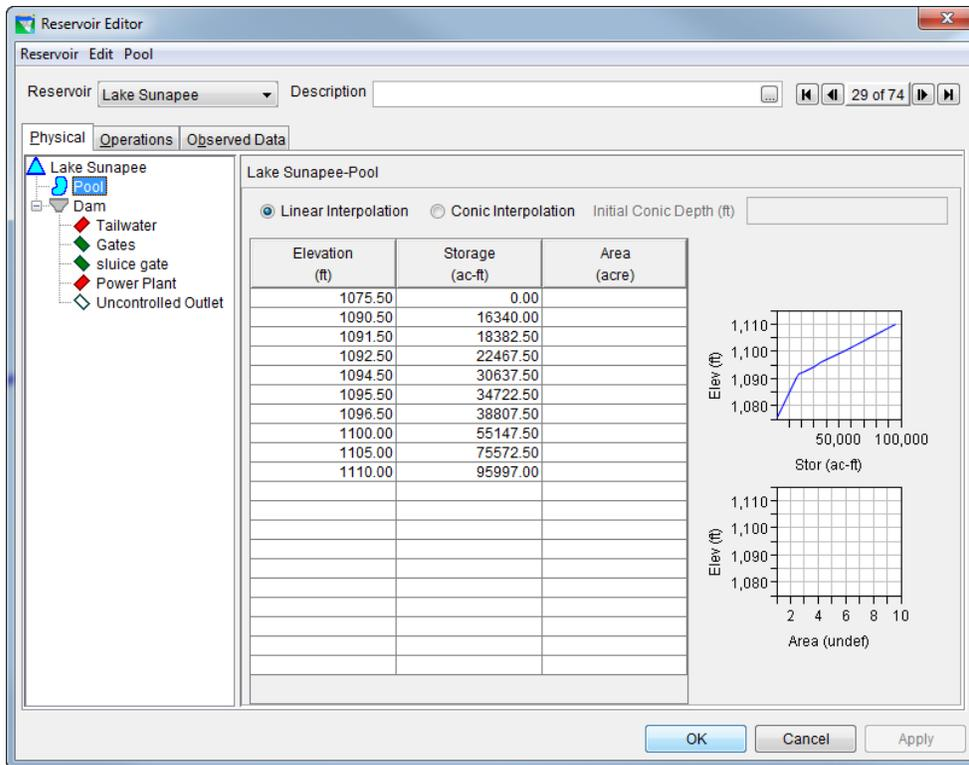
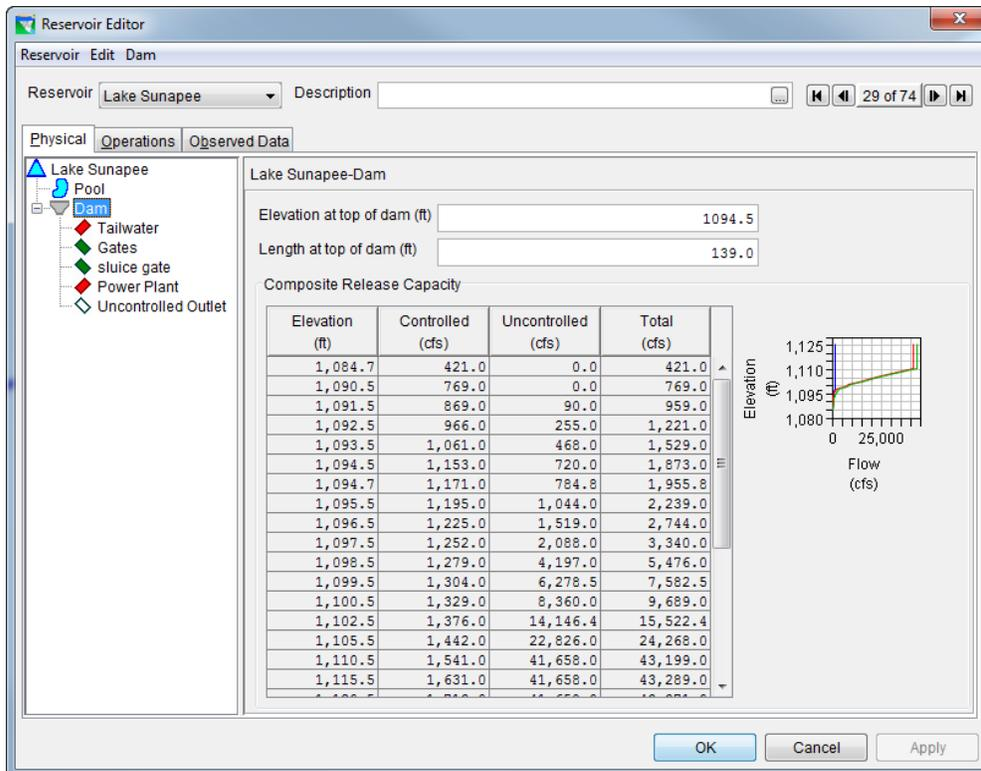

Figure 3: Reservoir Editor: Physical Tab -- Pool
Figure 4: Reservoir Editor: Physical Tab -- Dam
The physical characteristics of the reservoir are separated between the Pool and the Dam in the HEC-ResSim model. The elevation-storage-area defines the pool as shown in Figure 356. The dam consists of four types of outlets: (1) controlled Gates, (2) controlled sluice gate, (3) uncontrolled outlet, and (4) power plant as shown in Figure 457.